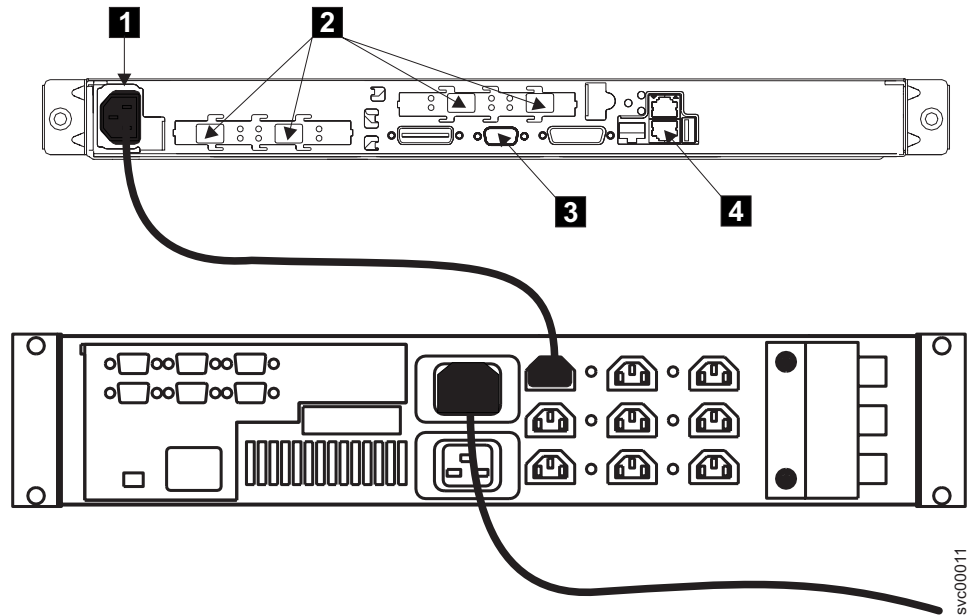

Figure 3. Power cable and signal sockets for the SAN Volume Controller 2145-4F2 and 2145 UPS
2. Ensure that the power cable is plugged into the 2145 UPS. Also, ensure that the other end of the power cable is connected from the 2145 UPS to the distribution point in the rack. Figure 3 on page xxv shows the connectors for the SAN Volume Controller 2145-4F2 and the 2145 UPS. The power cable connector is shown as **1** in the figure.